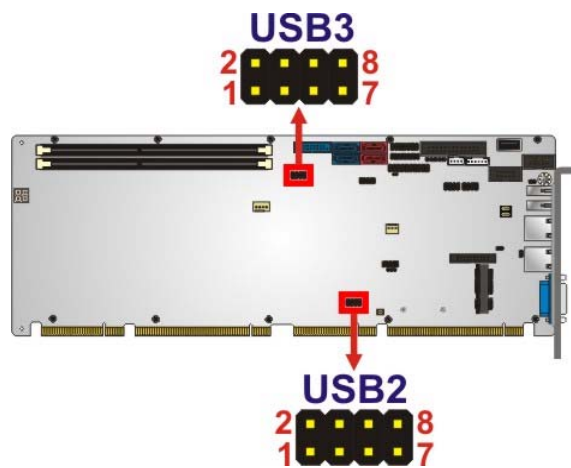

Figure 3-27: USB 2.0 Connector Pinout Locations
- CN Location:** See **Figure 3-27**